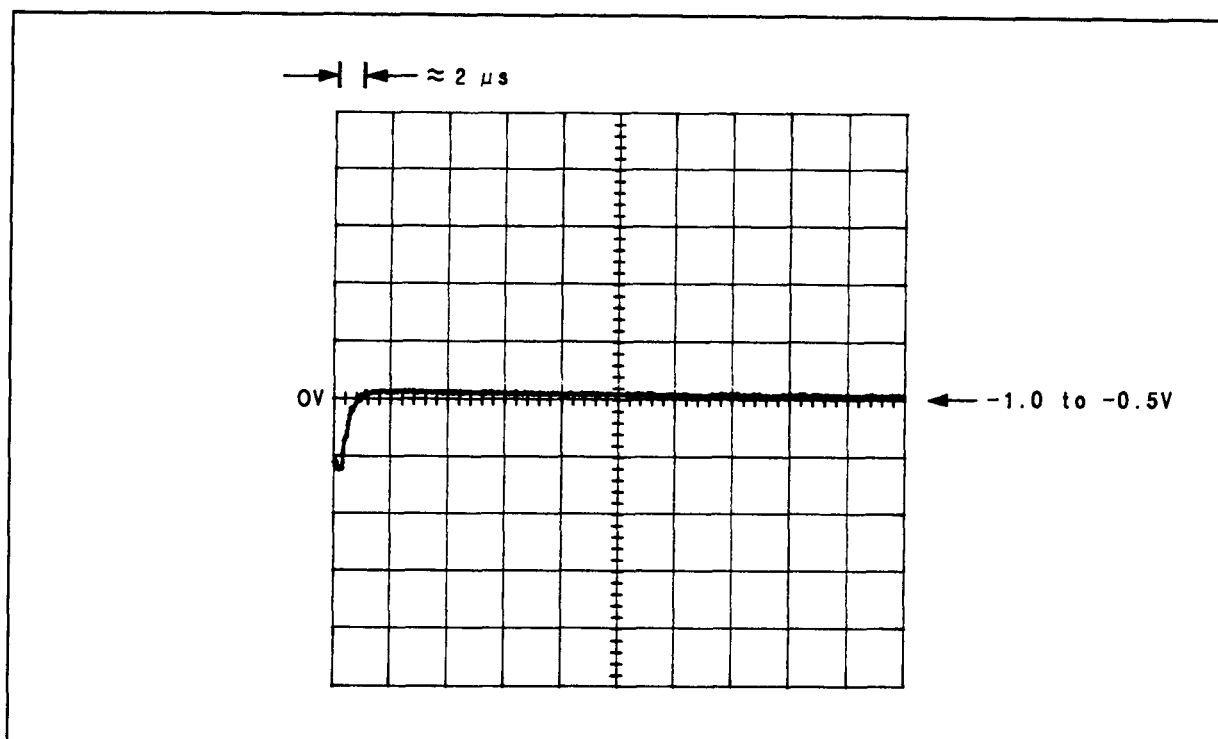

Figure 8F-32. Waveform for $\sqrt{1}$ Step 4
4. Check the voltage at the collector of Q5 with a high-impedance, dc coupled oscilloscope. The waveform should be a square wave with an amplitude of approximately 1.6 Vpp and a period of approximately 2.8 ms, but more importantly, observe the falling edge. Set the oscilloscope to trigger on a negative slope with a sweep time of 2 μ s per division. The waveform will be intermittently stable and very faint but the falling edge should be as in Figure 8F-32.